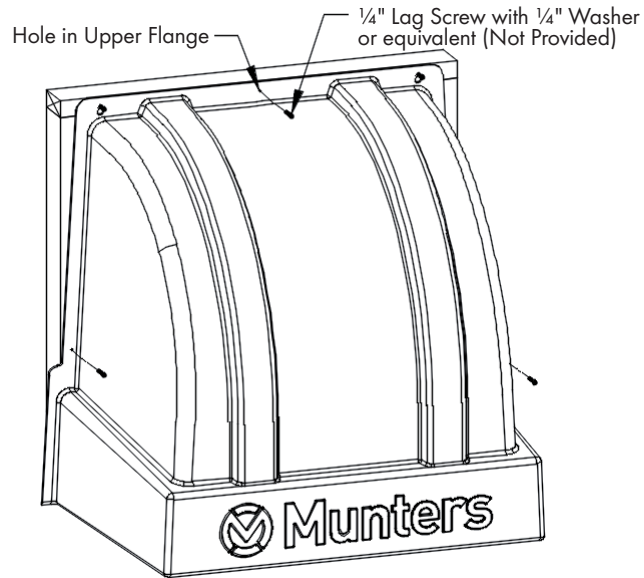

Figure 7
While the Weather Hood is hanging on the screws, secure it to the framing with (3) ¼" lag screws with ¼" washers or equivalent (not provided) in the center hole in upper flange and the hole in each side flange. See Figure 7.